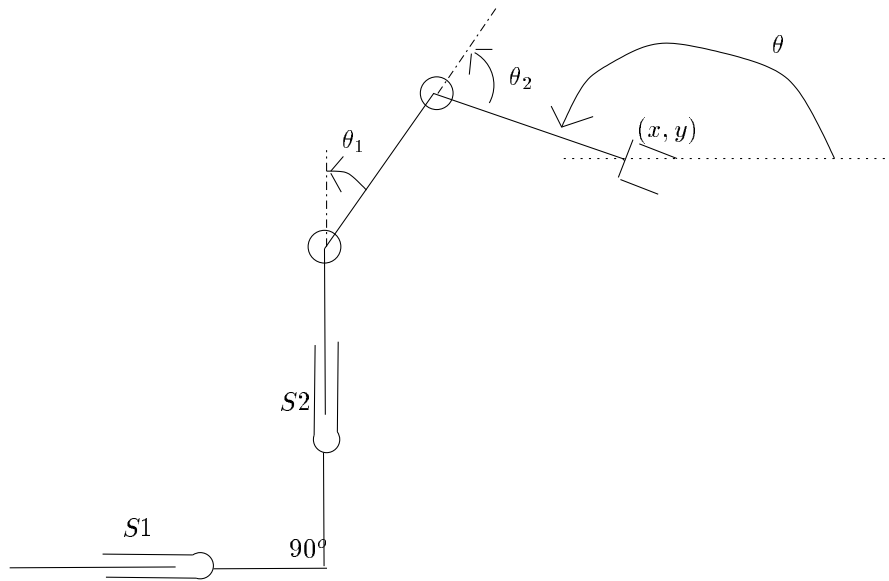

Figure 1. D-H Notation Question
**P1. [*D-H Notation, 20pts*]** Consider the following four degree-of-freedom manipulator with one prismatic (linear translation) joint, followed by a prismatic (linear translation) joint that is perpendicular to the previous one, and then two revolute joints (Figure 1).